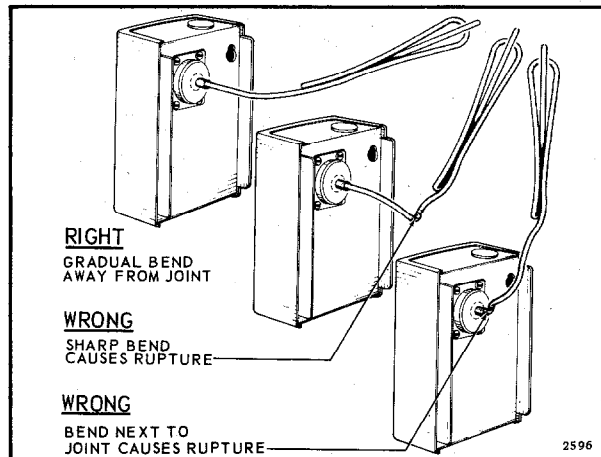

FIG. 2—PROPER POSITIONING OF ELEMENT.
6. Position the element as described in Location above, bending as necessary. Avoid sharp bends or repeated flexing with the self-supporting model (Fig. 2).